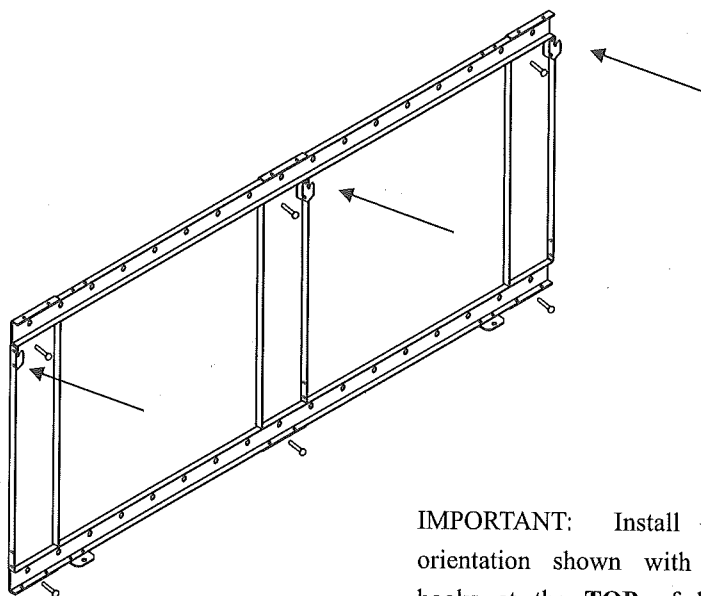

Fig. 5
5. Insert the included long screws to secure the bracket to wall (Fig. 5)